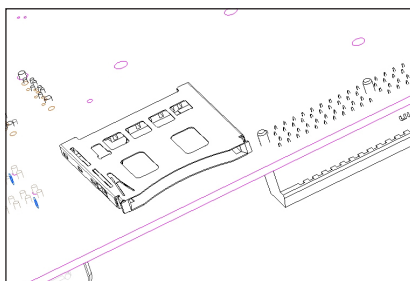

Figure 1-4. SD Card Slot Location on the Underside of the Board
- SD card reader v3.0 (see Figure 1-4.)